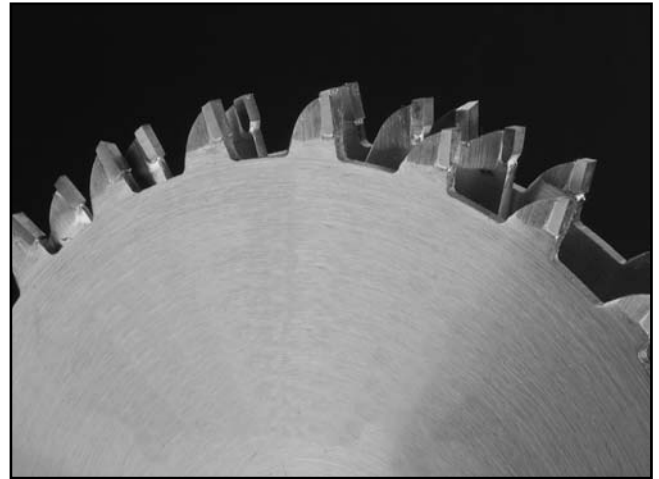

Figure 29. Optional dado blade.
- **Stacked Dado Blade**—These dedicated dado cutting blades consist of a set of up to 8 individual blades. Multiple cutters are "stacked" between two outside blades. The width of the dado is determined by the combination of cutters that are "stacked" together. The dado is cut in a single pass leaving a smooth and square channel in the face of the workpiece as shown on Page 32. Stacked dado blades are the most expensive option but are worth considering if your projects require a lot of visible dado cuts. A typical stacked dado blade is shown in Figure 29.
Commonly used in furniture joinery, a rabbet is a straight groove cut in the edge of the workpiece. Rabbets can be cut using either a dado blade (Figure 29) or a standard saw blade.